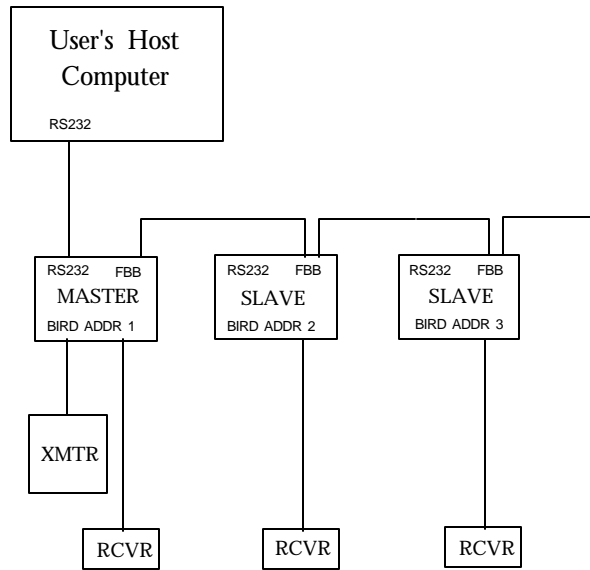
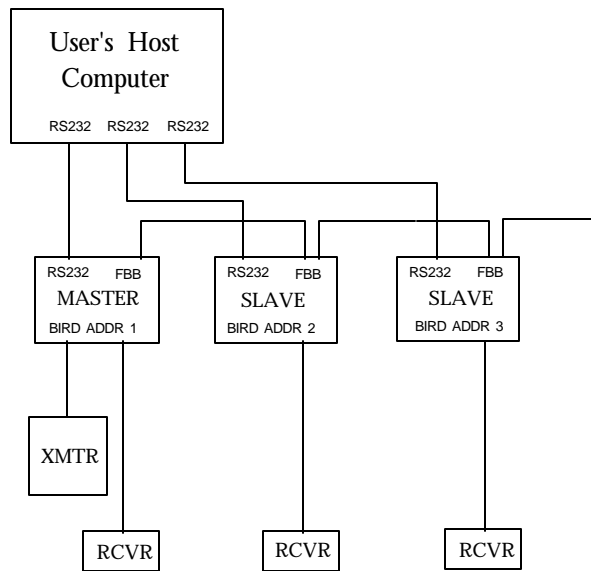

Figure 1 - FOBs With Single RS232 Interface To Host Computer
Figure 2 - FOBs With Individual RS-232C Interfaces To Host Computer
The miniBIRDS can be configured to suit the needs of many different applications: from a standalone unit consisting of a single transmitter and sensor to more complex configurations consisting of various combinations of transmitters and sensors. Figures 1 and 2 show a one transmitter/multiple sensor configuration for simultaneously tracking many sensors with one transmitter. In Figure 1, it utilizes a single RS-232C port. In Figure 2, it utilizes multiple RS-232C ports. In these figures, the Master BIRD is the flock BIRD that is controlling and coordinating the operation of all other Slave BIRDS - Slaves because they can only speak when spoken to by the Master or host. The user's host computer communicates with the Master to start and stop the flock and perform other major flock control functions. There can only be one Master running on the FBB at a time. The Master BIRD may have its own transmitter, but this is not a requirement. The flock can also run using a transmitter attached to a Slave. If the Slave unit has a transmitter, the user's host computer may tell the Master to turn on a given Slave's transmitter.
2.2.2 FBB CABLE - BIRD to BIRD. If you are using more than one miniBIRD in your flock then use the supplied FBB cables to interconnect the miniBIRDS for FOB operation in the daisy-chained fashion as indicated in Figures 1, 2, 3 or 4. The cables are plugged into either of the 8-pin modular connectors on the rear panel, labeled 'FBB'.